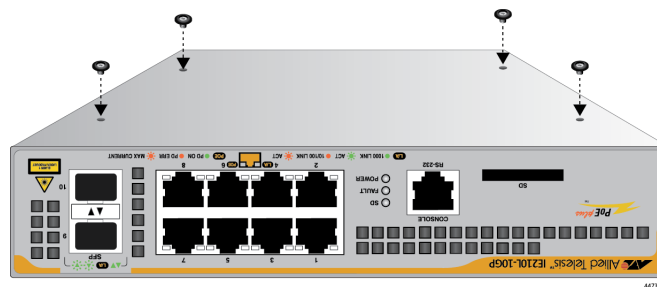

Figure 10. Attach Rubber Feet To Switch
3. Screw the rubber feet firmly onto the base of the switch, as shown in Figure 10: